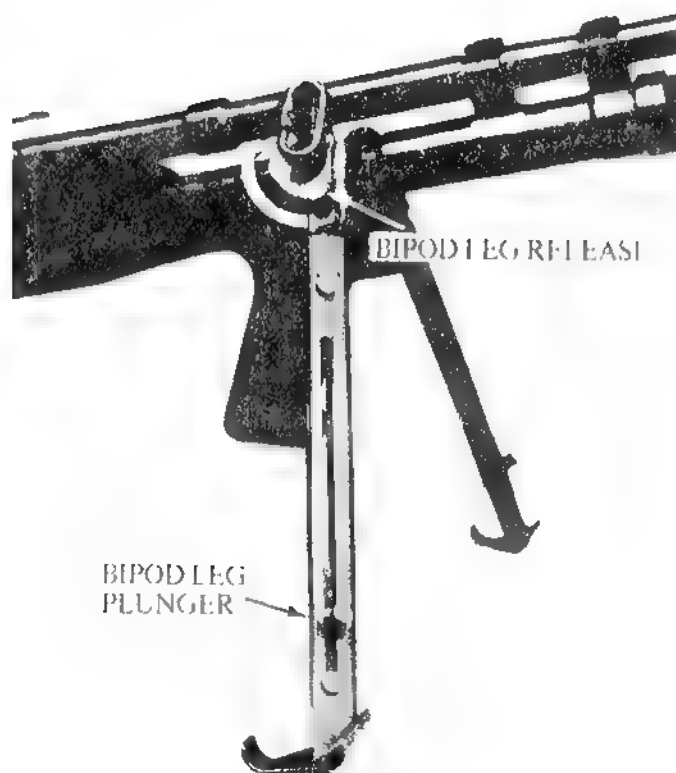

Figure 1-8. — Bipod Legs.
**1503. BIPOD LEGS.** The bipod legs on the M60E3 are similar to those found on the M249 Squad Automatic Weapon (Figure 1-8).
2. Collapsing the bipod legs on the M60E3 is somewhat different from the M60. The gunner must manipulate a latch (Figure 1-8) in order to collapse the legs. Handling the latch is not difficult since the bipod legs do not heat up as rapidly as they do on the M60.